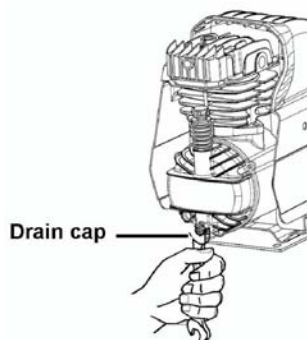

Fig.10
- (1) Within the first 50 hours of operation, completely replace the oil of the pumping element. Unfasten the oil drain cap on the casing cover, drain all the oil, and screw the cap back on (Refer to Fig.1 and to Fig.10).